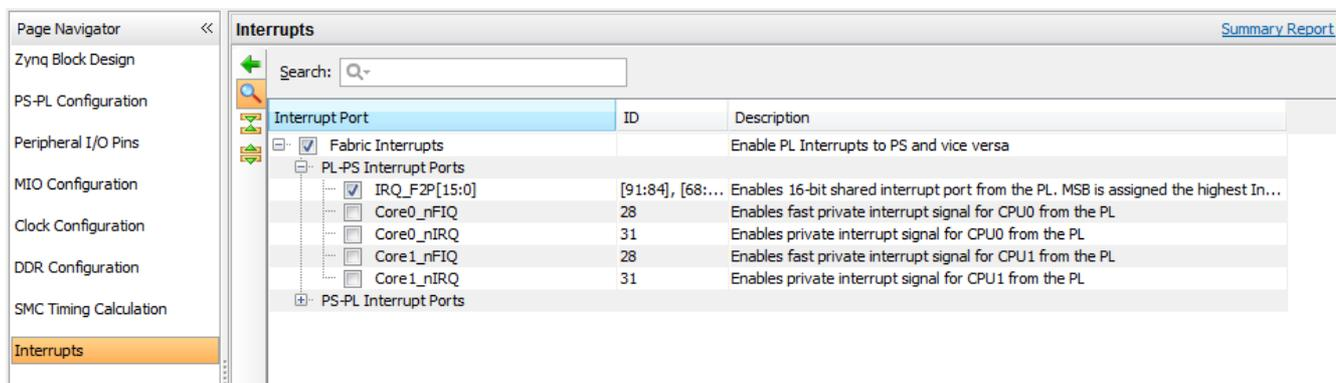

Figure 2.21: Configuring Zynq PS to utilise interrupts
- (i) Select *Interrupts* from the *Page Navigator* on the left-hand side and expand the menu on the right as in Figure 2.21. Since we want to allow interrupts from the **programmable logic** to the **processing system**, tick the box to enable **Fabric Interrupts**, then click to enable the shared interrupt port as in Figure 2.21. This means interrupts from the **PL** can be connected to the interrupt controller within the **Zynq PS**. Click **OK**.